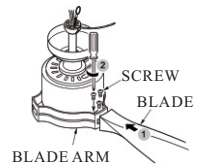

FIG.3
1. Attach each blade assembly to the blade arm using the blade screws. Tighten them securely (see Fig.3)